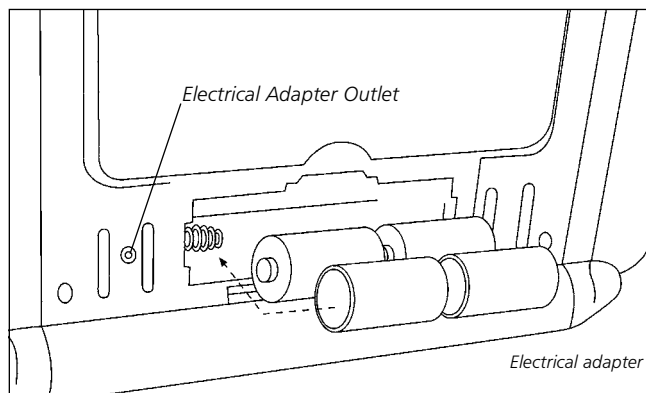

Figure 2
- Installation of 4 D-cell batteries is required for fan operation. Battery box is located on lower back panel of heater. Follow instructions on battery cover for correct battery installation. See figure 2.
- Heater can also be powered by electrical adapter F276127. Required adapter to be 6 volt DC up to 800 mil- liamp current with positive tip polarity. See figure 2.
- Heater can also be powered by electrical adapter, F276127. Required adapter to be 6 volt DC up to 800 milliamp current with positive tip polarity. See figure 2.